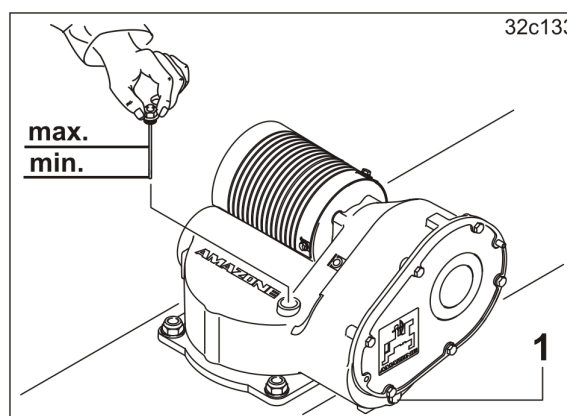

Fig. 139
2. Unscrew the oil drain screw (Fig. 139/1).